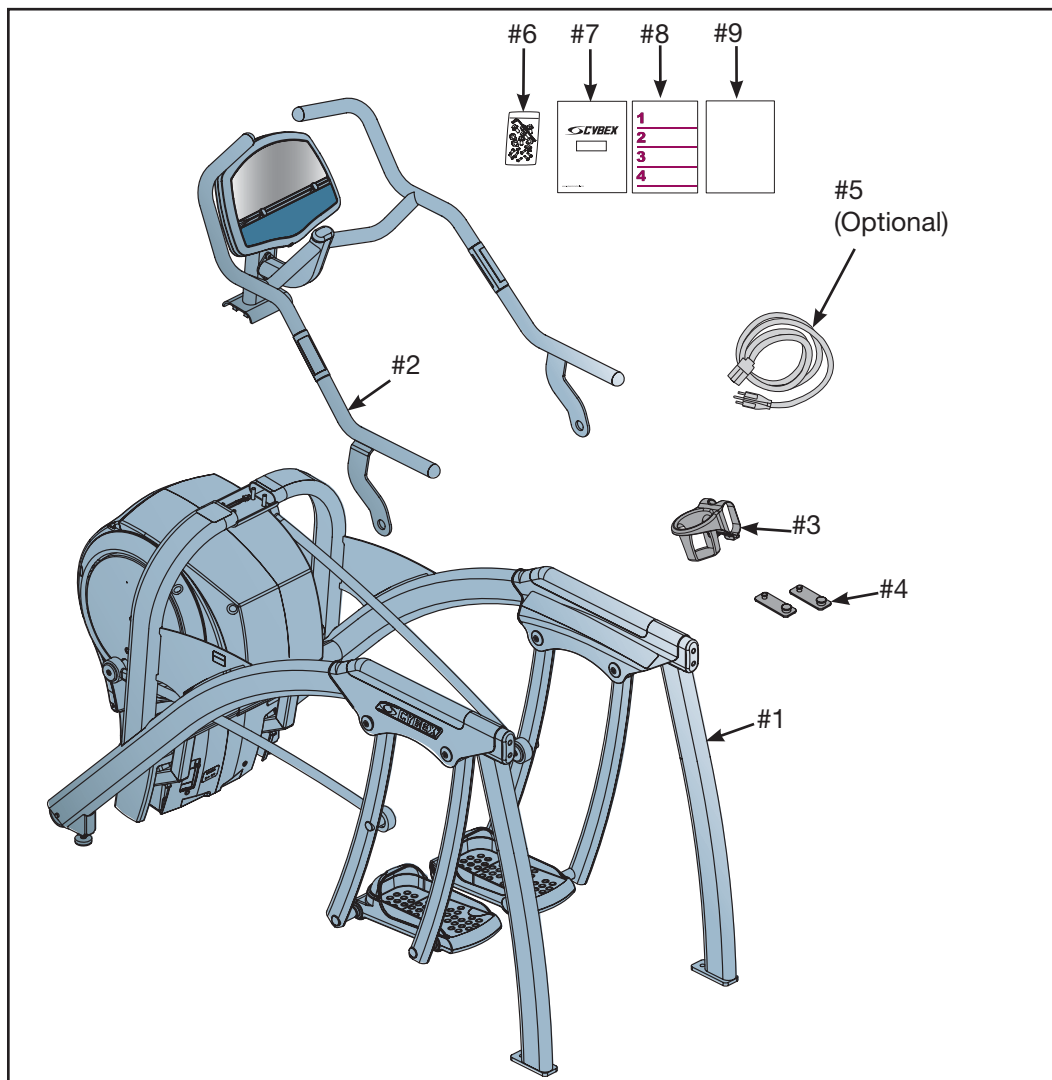

Figure 1
- D.** Check to be sure that the following items are present. Check off (✓) each item as you find it. See Figure 1. If any of the parts are missing contact Cybex Customer Service.